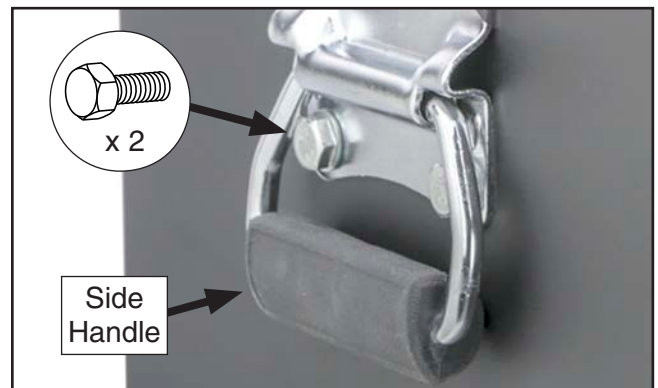

Figure 2. Side handle installed.
2. Attach each side handle using two M8-1.25 x 16 hex bolts (see **Figure 2**).